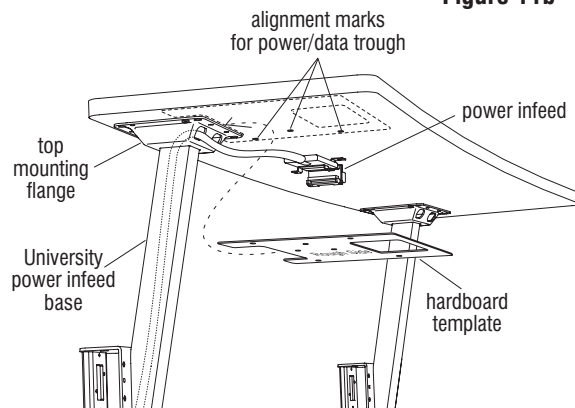

Figure 12
Note: The instructions below, as well as Figure 12 and the three details illustrate and explain the procedure of locating and marking alignment marks for a power/data trough where the infeed runs up a University base. Also, this section's three "details" outline a "typical" layout with pre-drilled mounting holes and trough alignment holes in the underside of the table top. Each configuration may vary. Follow the space-planning layout
illustrated, position the template, "**smooth side**" against the underside of the table top, and slide the template up against the top mounting flange of the University base at the power (or data) infeed location (Figure 12 & Detail A).
32. With the template held correctly in place, mark the appropriate "alignment marks" through the three holes in the template, on one or both sides where a power/data trough will be installed in the steps ahead (Figure 12 & Detail A).